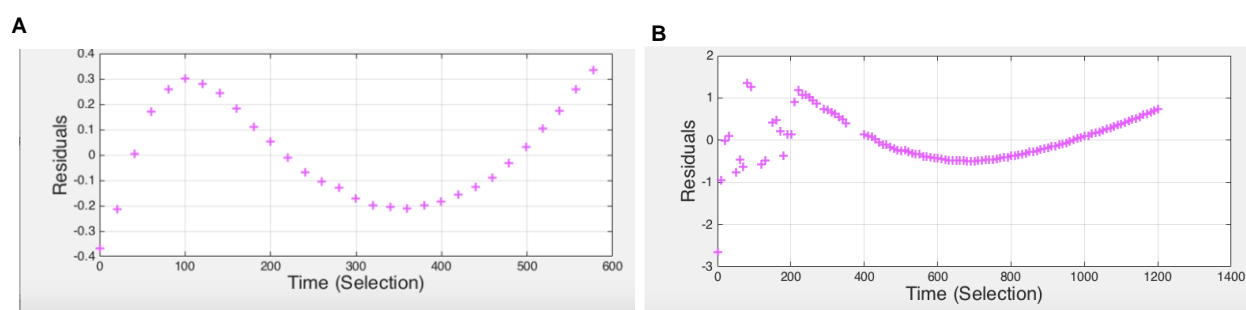

Figure S1. Residual plots of data estimated in Figure 2A(A) and 2B (B).
2. **Figure S1.** Residual plots of data estimated with PCAT